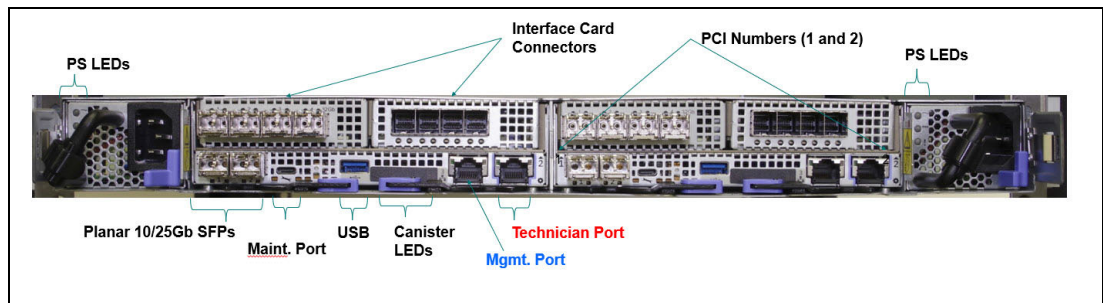

Figure 3-1 Where to find the technician port
3. Locate the technician port on each node canister, as shown in Figure 3-1.
4. Disconnect the personal computer from all networks. Connect an Ethernet cable between the port of the personal computer that is configured in step 2 and the technician port in the left canister (1) that is shown in Figure 3-1.